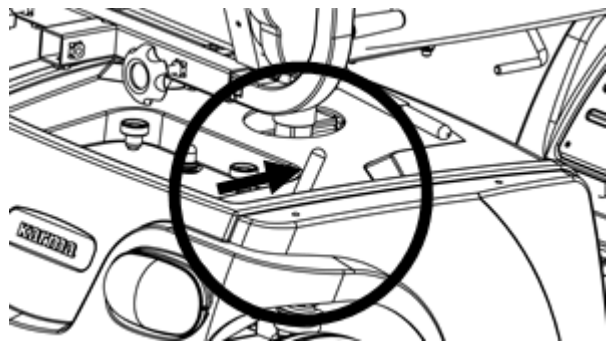

Figure 5.7 Freewheel Mode
5.12.2 Freewheel Mode: pull the lever completely towards the front of the scooter and the scooter can be pushed manually. Again, the electromagnetic brake does not work in freewheel mode. (See Figure 5.7)